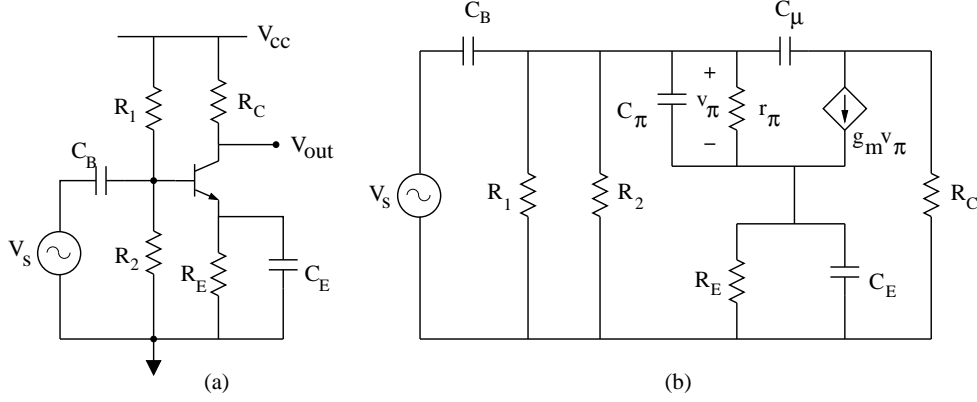

Figure 12: Common-emitter amplifier: (a) circuit schematic, (b) small-signal equivalent circuit.
Fig. 12 (a). There is a nonlinear element here, viz., the BJT, whose small-signal (AC) behaviour depends on the bias point, i.e., the DC solution. In particular, if the π equivalent circuit is used to model the BJT in the small-signal situation (see Fig. 12 (b)), then $g_m = I_C/V_T$, and $r_\pi = \beta/g_m$ depend on the DC collector current I_C . Clearly, it would not make sense here to perform AC analysis directly; the AC solve block must be preceded by a DC solve block so that the bias-dependent quantities in the small-signal equivalent circuit get computed by the simulator.